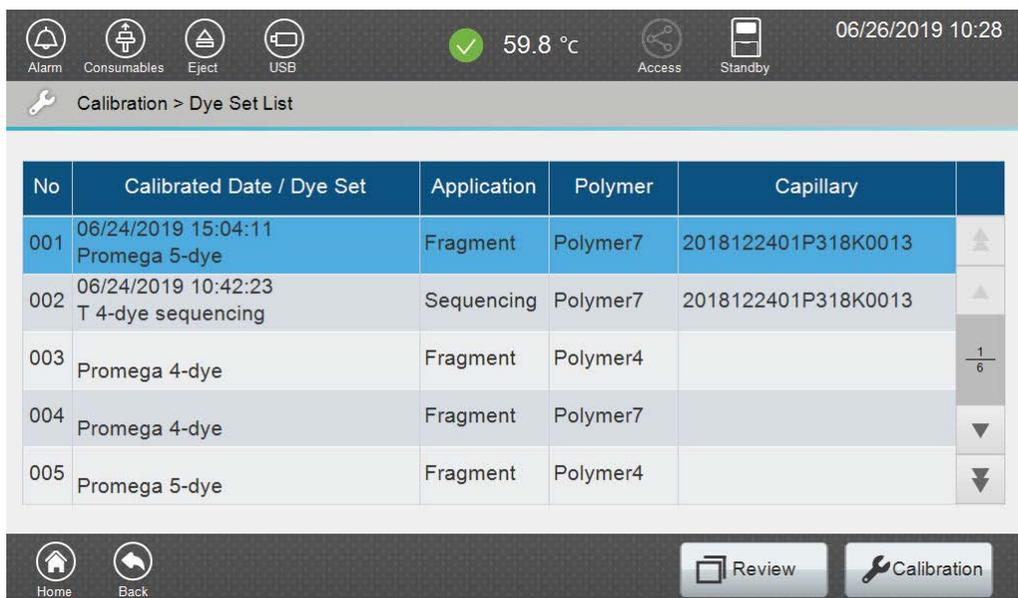
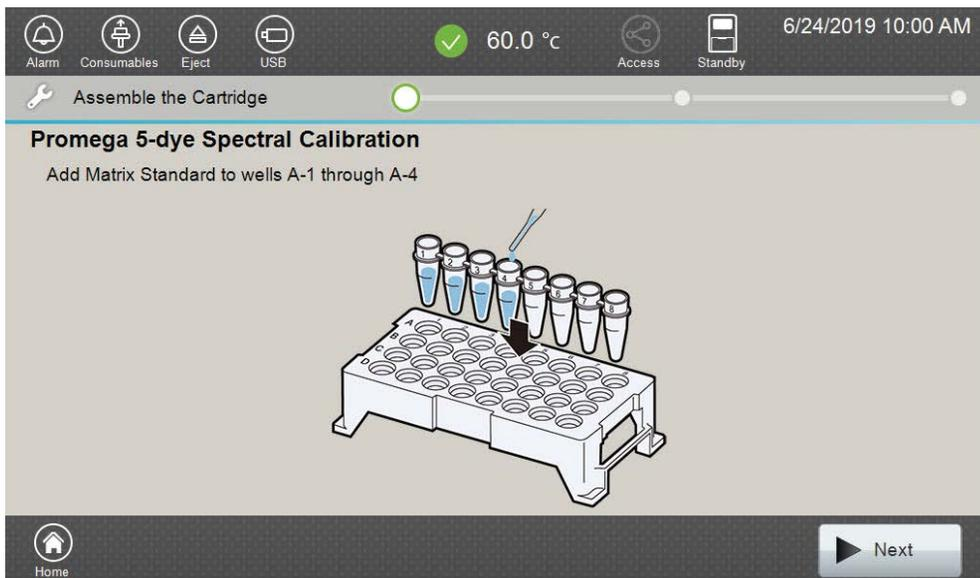

Figure 6. 'Dye Set List' screen.
Figure 7. 'Assemble the Cartridge' screen.
4. Use the scroll arrows on the right-hand side of the 'Dye Set List' screen (Figure 6) to find the correct Dye Set/Application Type/Polymer combination from the displayed list. To perform a spectral calibration using the GenePrint® 5C Matrix Standard on Polymer7, select "Promega 5-dye" with "Fragment" and "Polymer7" as application and polymer types, respectively, then select **Calibration**. The 'Assemble the Cartridge' screen will open (Figure 7).
5. Select **Next** on the 'Assemble the Cartridge' screen (Figure 7). A message window will open indicating that the autosampler is moving and telling the user to not open the door. In addition, the status indicator flashes green while the autosampler is moving. After autosampler movement is complete, the message window closes and the status indicator returns to a steady green.